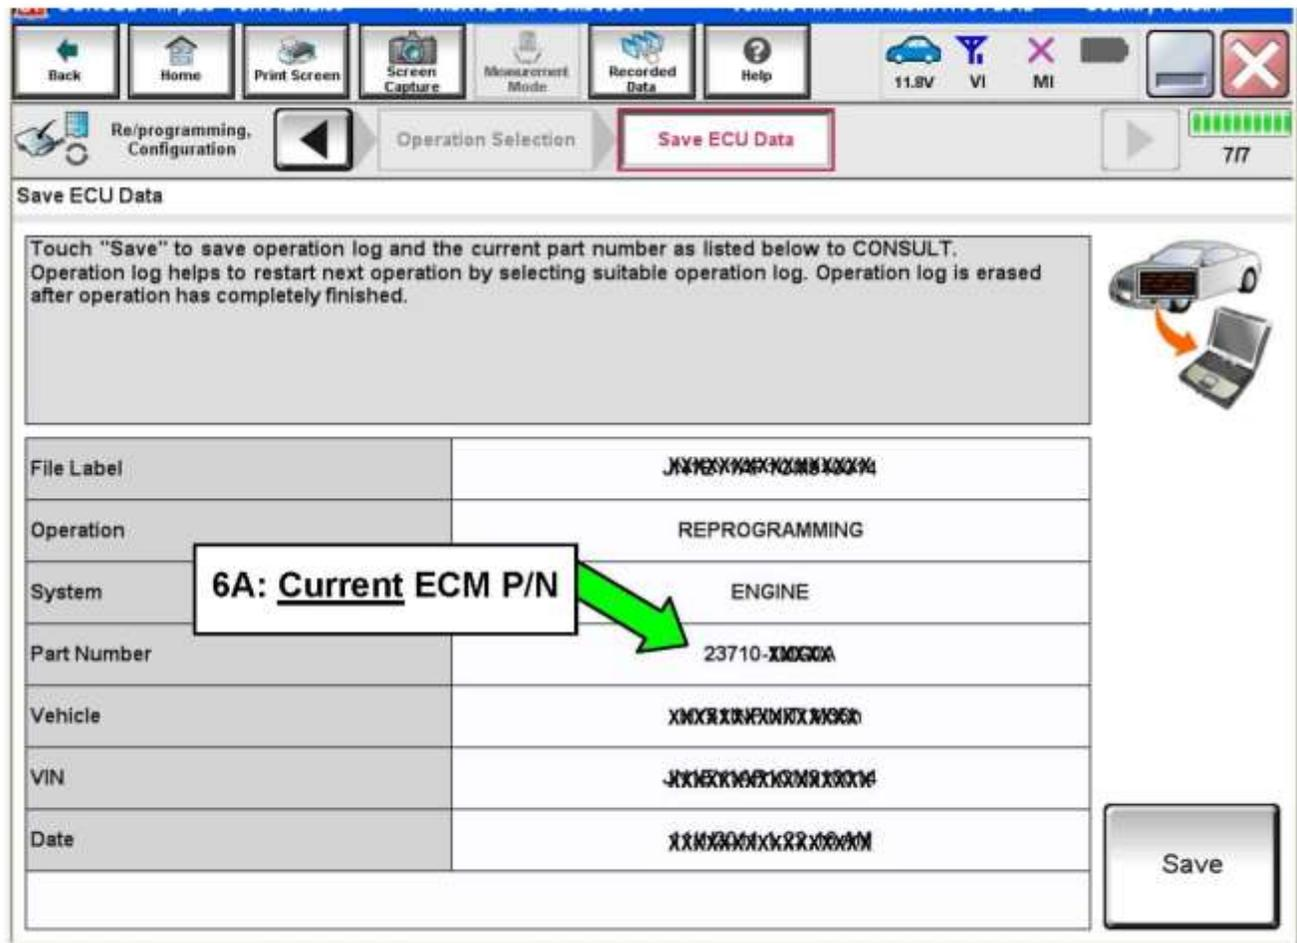

Figure 2
5. Follow the on-screen instructions and navigate the C-III plus to the screen shown in Figure 2.
6. When you get to the screen shown in Figure 2, confirm this bulletin applies as follows.